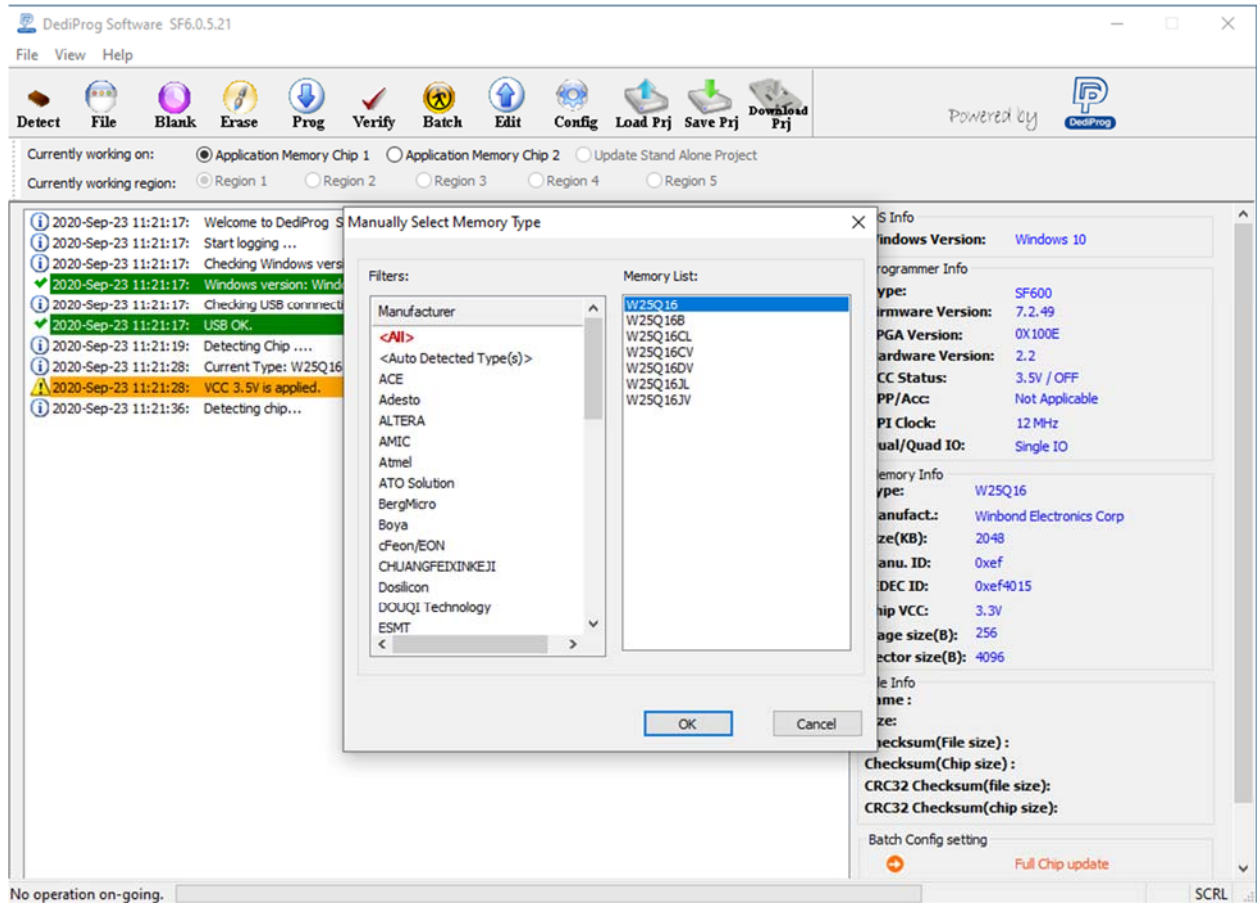

Figure 10: Choose the chip from memory list
- Step 5: Detect → choose First Chip number in the Memory list. (See Figure 10)